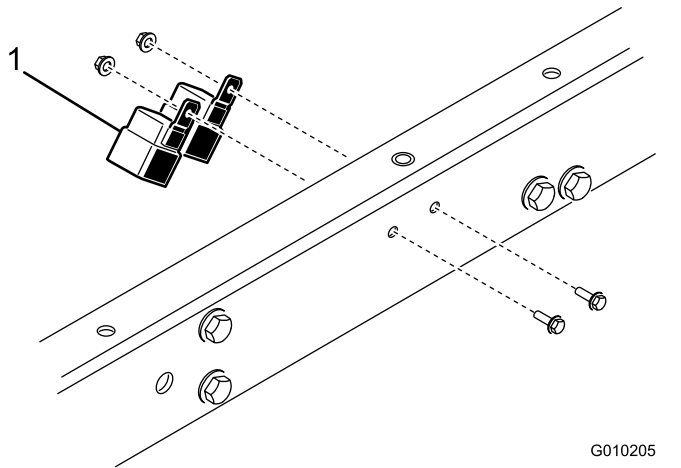

Figure 8
9. Mount the relays to the left frame channel with 2 screws (1/4 x 3/4 inch) and 2 nuts (1/4 inch) as shown in Figure 8.
8. Mount the relays to the left frame channel with 2 screws (1/4 x 3/4 inch) and 2 nuts (1/4 inch) as shown in Figure 8.